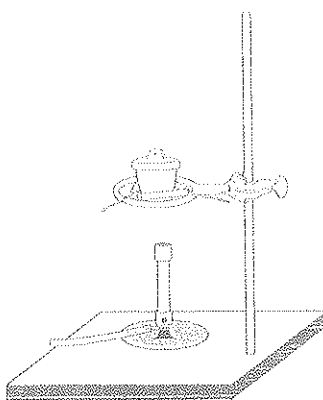

Figure 1.
1. Set up a Bunsen burner on a support stand beneath a ring clamp holding a pipe-stem triangle (see Figure 1). Do NOT light the Bunsen burner.